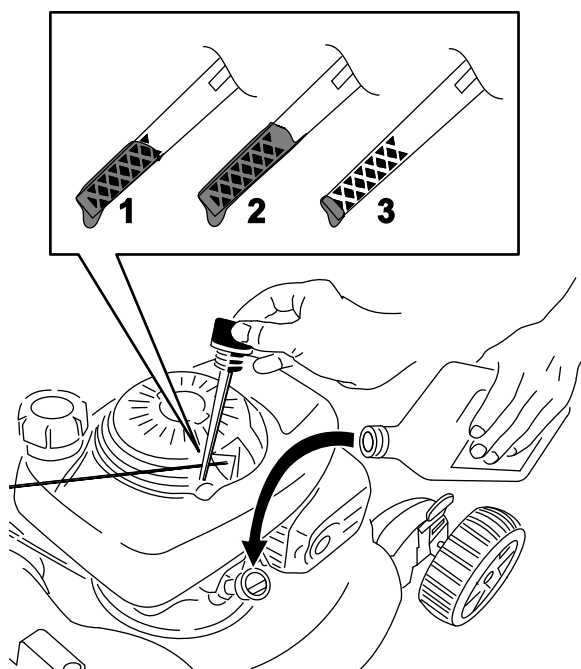

Figure 5
2. Remove the dipstick by rotating the cap counterclockwise and pulling it out (Figure 5).
7. Read the oil level on the dipstick (Figure 5).